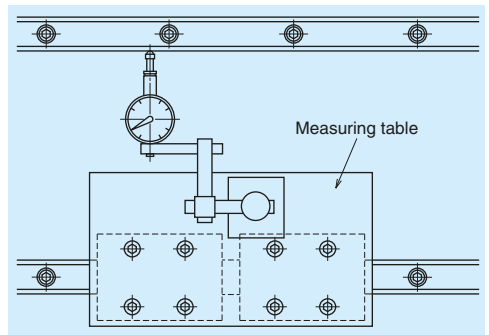

Fig. 10.15 Measuring parallelism
- [4] If there is no shoulder on the mounting surface of the machine base for the adjusting side rail: Secure a measuring table to the slides of the reference side rail (**Fig. 10.15**). Use this to adjust the parallelism of the adjusting side rail. Check parallelism of the adjusting side rail with a dial indicator from one end of the rail, tightening the bolts one by one.
Parallelism between two rails can also be checked by the same method in **Fig. 10.15** when there is a shoulder on the surface where the adjusting side rail is installed.